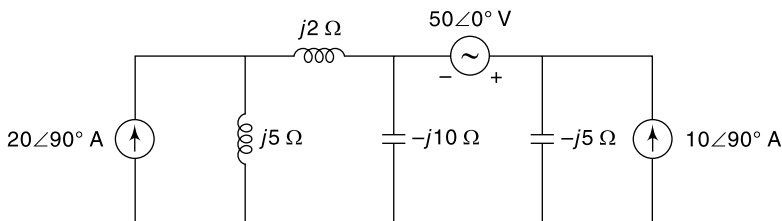

Fig. 6.25 Circuit of Ex. 6.24
6.24 Apply superposition theorem to find the current through the capacitor of $(-j5)$ in Fig. 6.25. ■■■■■
shown in Figs 6.25(a) and 6.25(b).